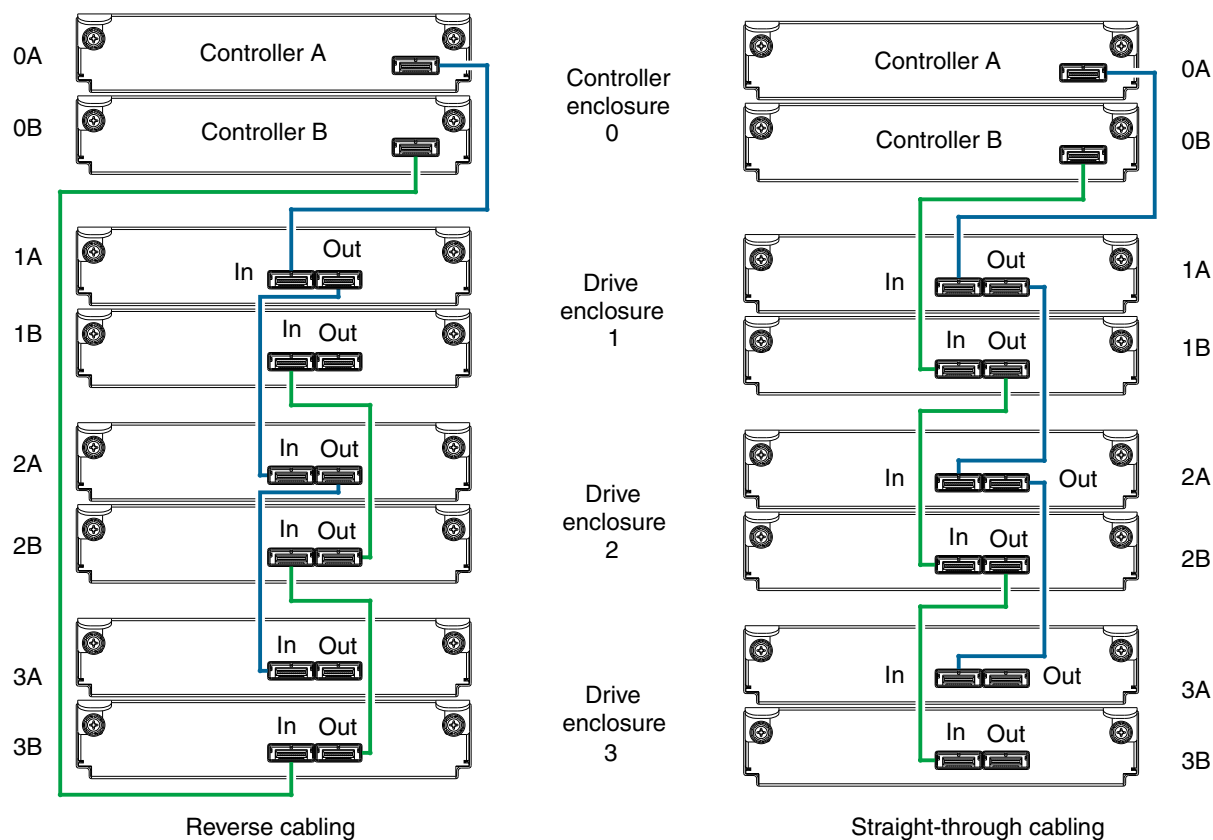

Figure 13 Fault-tolerant cabling between a dual-controller enclosure and three 2U drive enclosures
For example, the illustration on the left in Figure 13 on page 26 shows reverse cabling, wherein controller 0A (i.e., enclosure-ID = 0; controller-ID = Able) is connected to expansion module 1A, with a chain of connections cascading down (blue). Controller 0B is connected to the lower expansion module (B) of the last drive enclosure in the chain, with connections moving in the opposite direction (green). Cabling examples are provided on the following pages.
The S3200/S2200 controllers support cabling of 6 Gb SAS link-rate SFF and LFF expansion modules—in mixed model fashion—as shown in Figure 13 on page 26. The simplified rear-panel views of the E1024 and E1012 are identical.
- Figure 13 on page 26 shows maximum supported enclosures for an S2200 array.
The 2U drive enclosures shown in Figure 13 can either be of the same type (all E1024s or all E1012s) or they can be a mixture of these models. Given that supported drive enclosure models use 6 Gb SAS link-rate and SAS2.0 expanders, they can be ordered in desired sequence within the array, following the controller enclosure.
The diagrams above show dual-controller enclosures cabled to drive enclosures featuring dual-expansion modules. Cabling logic is explained in the narrative supporting Figure 13 on page 26.